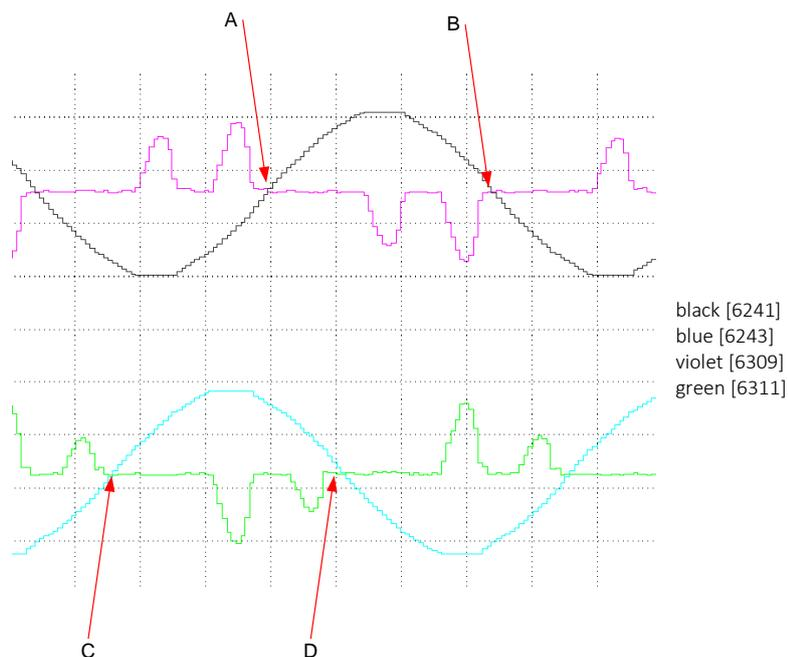
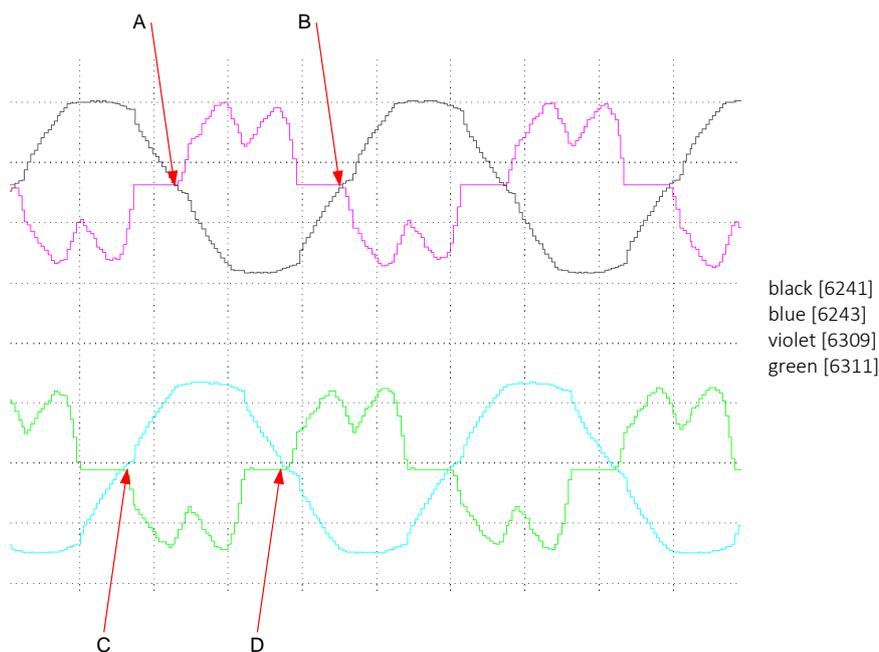

Fig. 5-2: Voltages and currents sequence in case of phase sequence “U-V-W”
Fig. 5-3: Voltages and currents sequence in case of phase sequence “U-W-V”
- Now it is necessary to check that the voltage phase sequence is the same of current phase sequence to avoid short circuit / overcurrents. Open Softscope and add to the track list the following parameters: **[6238], [6240], [6309], [6310], [6311]** and click on single sequence capture. Check the **phase sequence [7513]** and then have a look at currents and voltages are similar to the Fig. 5-2 and Fig. 5-3.